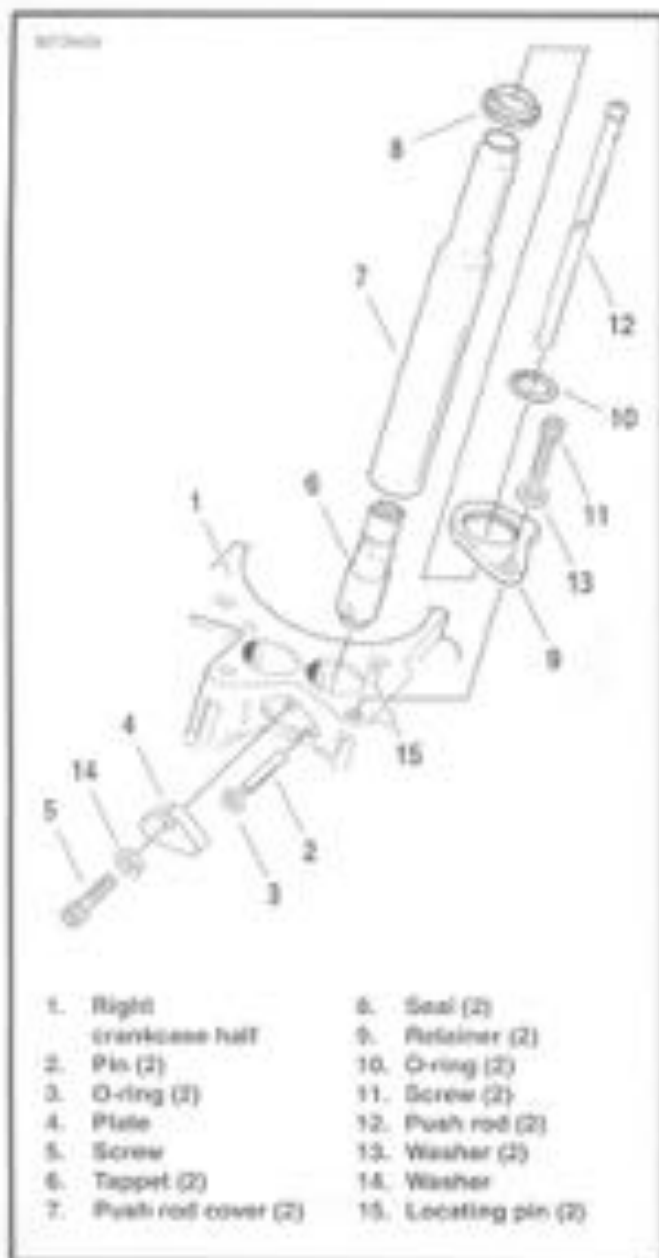

Figure 3-9. Middle Valve Train Components
- See Figure 3-9. Remove socket screws (11), washers (13), and retainers (9). Remove push rod covers (7), seals (8), O-rings (10), and push rods (12). Mark the location and orientation (top and bottom) of each push rod.
1. Head screw, long (2)
2. Head screw, short (2)
5. Inner valve spring (2)
6. Outer valve spring (2)
7. Valve keeper (4)
8. Upper collar (2)
9. Lower collar (2)
10. Valve - (1) intake